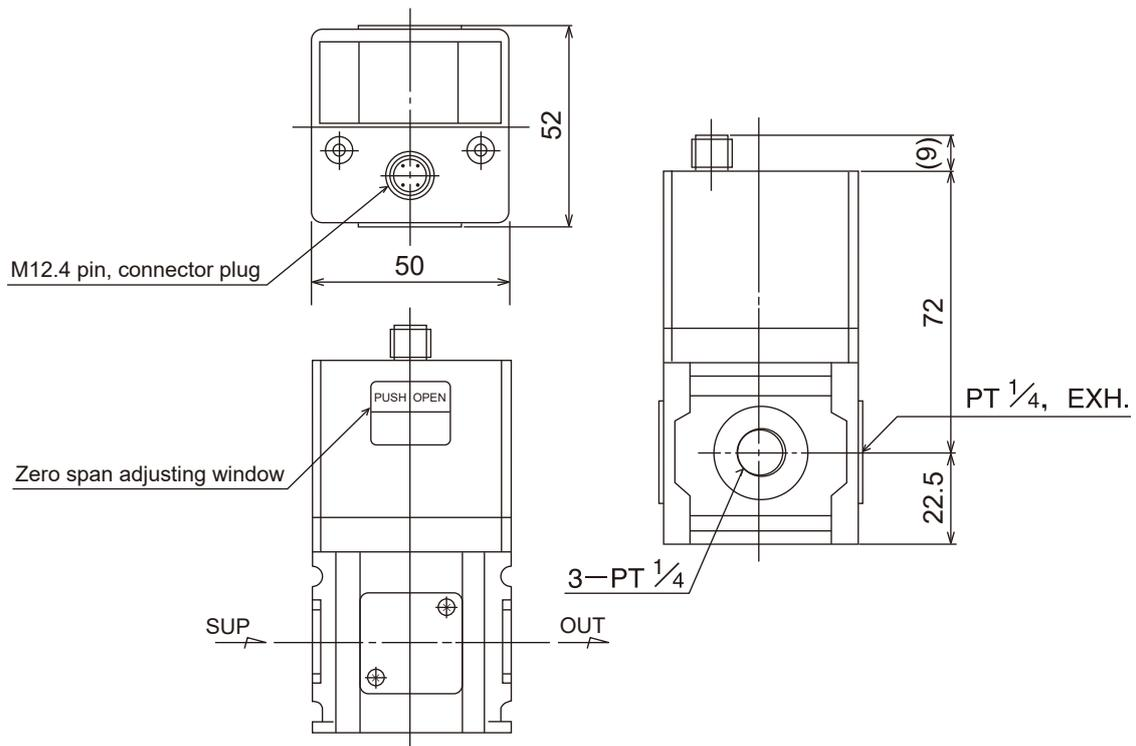

Fig. 2
- (2) Electro-pneumatic regulator (Option) (Fig. 2)